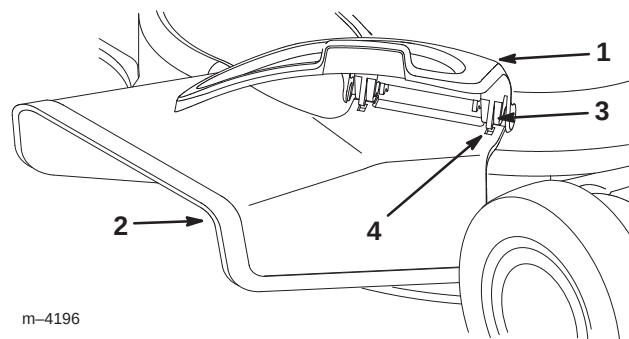

Figure 39
5. Slide the chute over the opening with the slots in the chute lined up with the tabs under the cover (Fig. 39).
3. Open the side opening cover and remove the side discharge chute (Fig. 39).